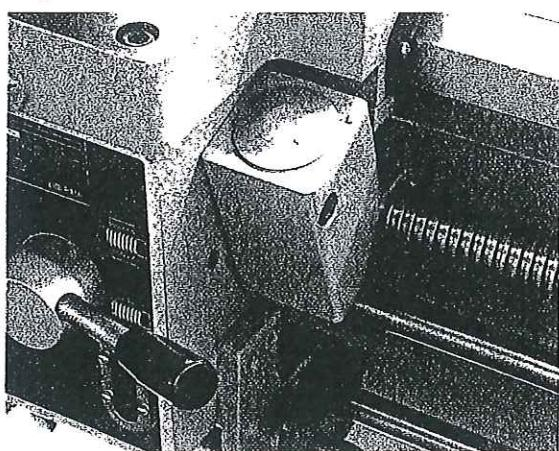

Figure 15
2. Remove chasing dial assembly (**Figure 15**)
3. Remove rotation lever assembly (**Figure 15**)